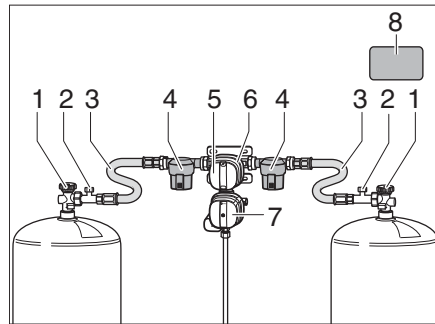
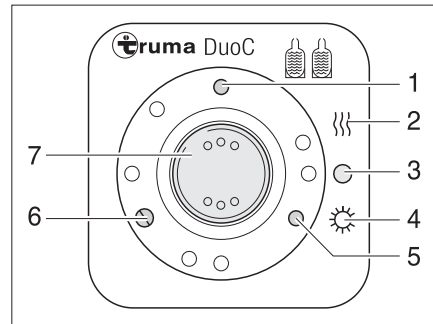
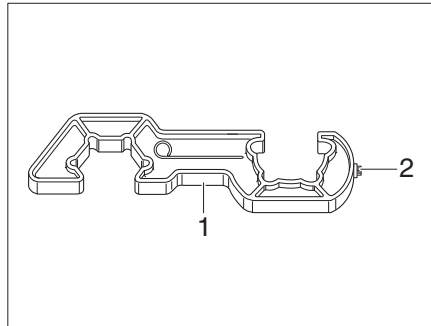
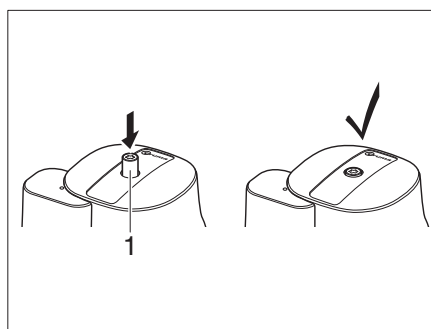

Fig. 210 DuoControl switching facility
Fig. 211 Operating unit
Fig. 213 Screw aid
Fig. 214 Crash sensor
The DuoControl switching facility consists of a switching valve (Fig. 210,6) and the operating unit (Fig. 211). The switching valve is mounted between the high-pressure hoses (Fig. 210, 3). The knob (Fig. 210,5) on the switching valve is used to select which of the gas bottles is to be used as a primary bottle and which is to be used as a reserve bottle.
The switching valve (Fig. 210,6) is equipped with the regulator defroster "EisEx". This prevents damage to the gas system during the winter months.
A gas filter (Fig. 210,4) that protects the gas system against oil and other contamination is located on each side before the switching valve.
Only the electrical functions can be switched at the operating unit (Fig. 211). The regulator taps (Fig. 210,1) on the gas bottles must be opened manually.
The switching valve provides a constant gas pressure, regardless of which gas bottle is being drawn upon. The two indicator lamps on the operating unit show the filling level of the primary bottle. The primary bottle is full when the green indicator lamp (Fig. 211,6) lights up. The primary bottle is empty when the red indicator lamp (Fig. 211,5) lights up. The gas is then supplied via the reserve bottle.
- Open the regulator taps (Fig. 210, 1) on the gas bottles.
- Use the knob (Fig. 210,5) on the switching valve (Fig. 210,6) to select the gas bottle which is to be the primary source of gas (primary bottle). Always turn the knob as far as it will go.
- Set the rocker switch (Fig. 211,7) to "O" (Fig. 211,3). The yellow indicator lamp (Fig. 211,1) goes out.
- Close the regulator tap (Fig. 210,1) on the gas bottles.
The indicator lamps on the operating unit (Fig. 211,5 and 6) indicate in the vehicle interior whether the primary bottle is ready for operation.
If the green indicator lamp (Fig. 211,6) goes out during operation and the red indicator lamp (Fig. 211,5) lights up, the gas bottle selected as the primary bottle is empty and has to be replaced. The reserve bottle continues supplying the gas appliances with gas.
- ▶ Use the enclosed screw aid (Fig. 213,1) to connect and disconnect the high-pressure hoses. It ensures the required tightening torque and prevents damage to the screw connection through using unsuitable tools.
- Close the regulator tap (Fig. 210, 1) on the empty gas bottle.
- Unscrew the high-pressure hose (Fig. 210,3) from the gas bottle using the screw aid (Fig. 213).
- Connect the full gas bottle to the high-pressure hose (Fig. 210,3).
- Open the regulator tap (Fig. 210, 1) on the gas bottle.
- Set the knob (Fig. 210, 5) on the switching valve (Fig. 210, 6) with half a turn, so that the newly replaced gas bottle will serve as a reserve bottle.
- Press the button (Fig. 210, 2) for the hose break guard at the high-pressure hose to activate it.
- If necessary, press the reset button (Fig. 214, 1) at the crash sensor.
- ▶ Observe the safety label (Fig. 210, 8) in the gas bottle compartment.
- Use the Torx T20 (Fig. 213,2) at the screw aid to press in the safety release knob (Fig. 214,1), turn it slightly clockwise and hold it for 5 seconds.
The crash sensor is ready to operate when the safety release knob (Fig. 214,1) remains in the lowered position.
- After replacing the gas bottle press the green button (Fig. 210,2) at the high-pressure hose (Fig. 210,3) vigorously.